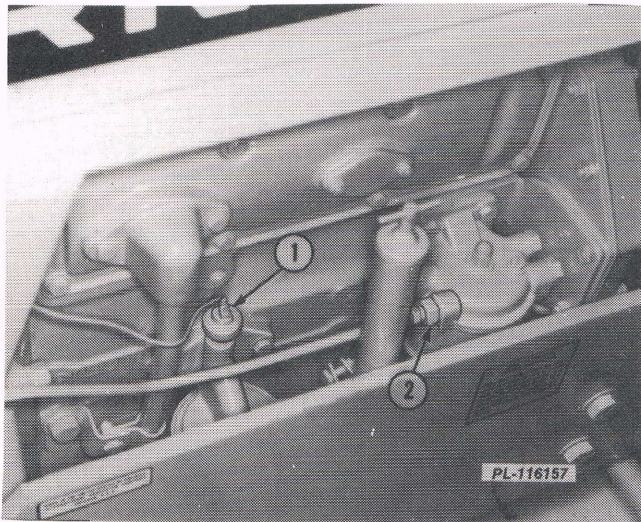

Fig. 8
17. Disconnect the oil pressure sending wire. Disconnect the fuel inlet tube at the transmission (Fig. 8).